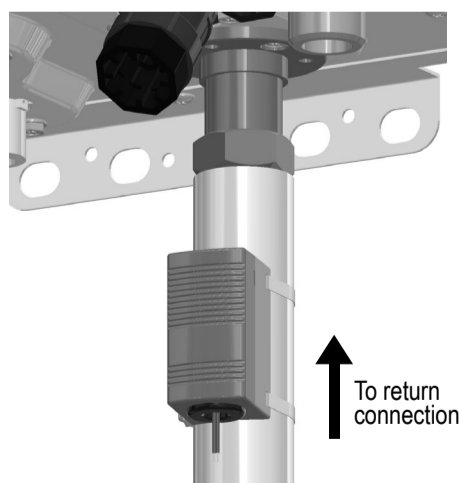

Figure 6
- ① Fasten to the pipe using the included stainless steel tie bands.
- ② Temperature sensor must be installed in the vertical position.
- ③ Sensor orientation must be installed as pictured. (See Figure 6)